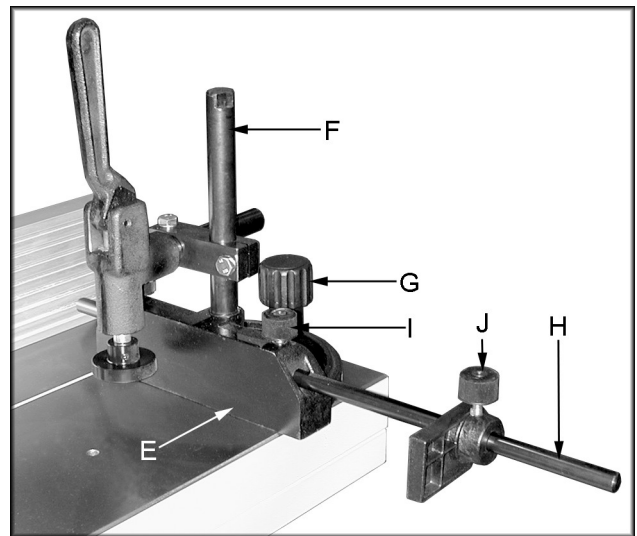

Figure 5
1. Mount the miter gauge (E, Figure 5) to the sliding table by threading the rod (F, Figure 5) and handle (G, Figure 5) into one of the three sets of available threaded holes.
2. Insert stop rod (H, Figure 5) into the miter gauge and secure in place with two knobs (I, Figure 5). Slide the stop on to the rod and secure in place with knob (J, Figure 5).